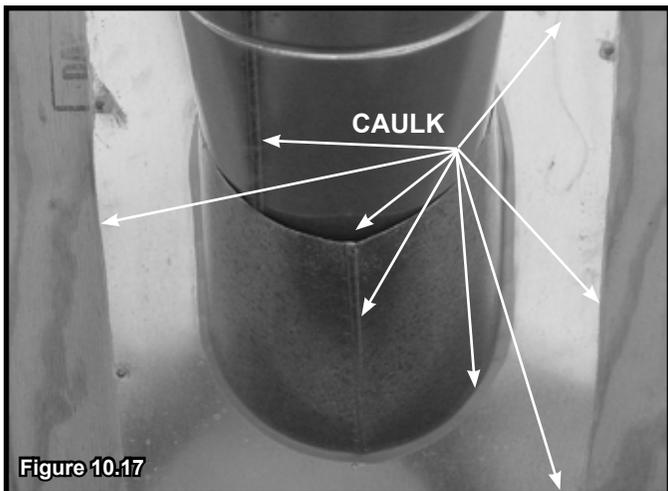

Figure 10.17
- Slide the roof flashing over the pipe sections extending through the roof as shown in Figure 10.17.
- Caulk the perimeter of the flashing where it contacts the roof surface. See Figure 10.17.